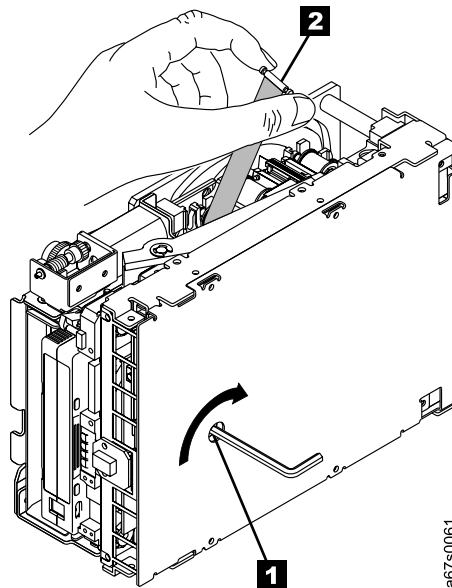

Figure 27. Rewinding the leader pin into the tape cartridge
1. Place the tape drive on its side as shown in Figure 27 on page 80.
3. If necessary, use needle-nose pliers to grasp the end of the leader pin and pull it out of the cartridge so that you can grip it with your fingers (see **1** in Figure 27).